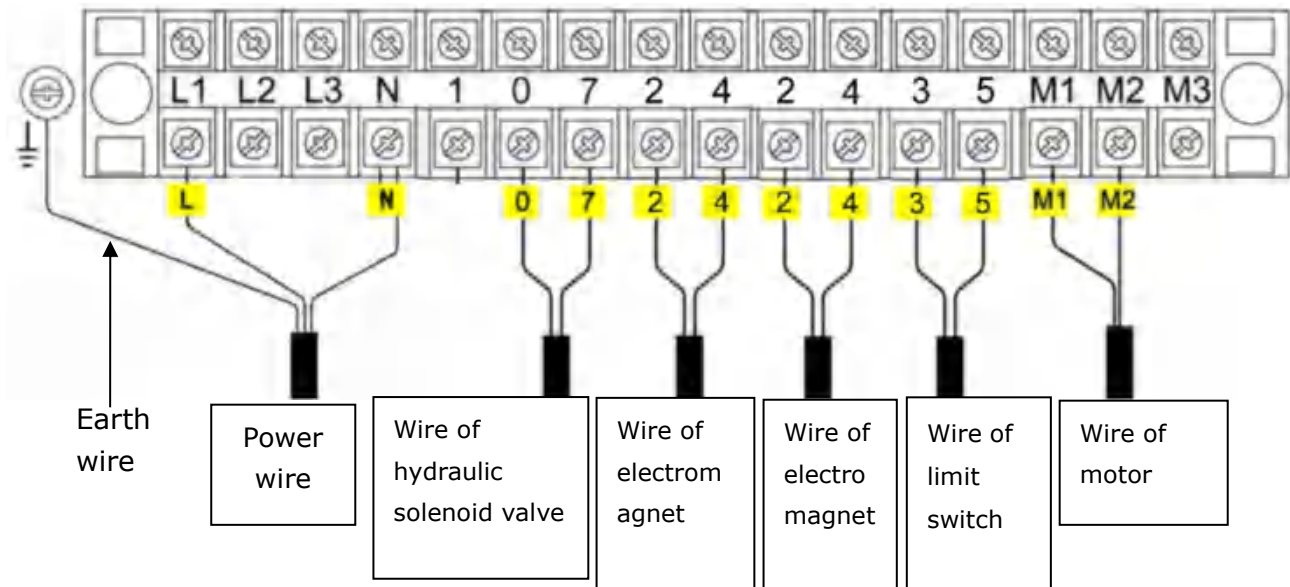

Fig. 36
3.1 Wire Connection diagram in the control box (**See Fig. 36**)